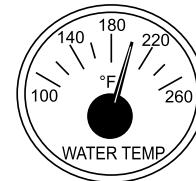

Figure 36. Coolant Temperature Gauge
13. The **coolant temperature gauge** (Figure 36) will indicate the coolant temperature. Under normal operating conditions, the coolant temperature should be approximately 180°F (82°C).